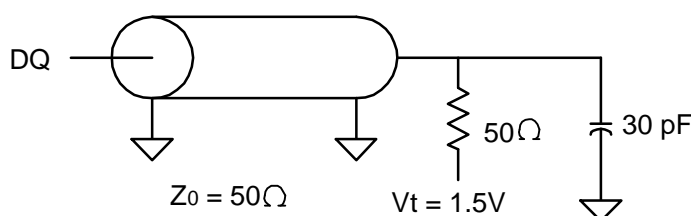

Fig.1 OUTPUT LOAD EQUIVALENT
Output load	See Figures 1 and 2
5. Test conditions as specified with the output loading as shown in Fig. 1 unless otherwise noted.